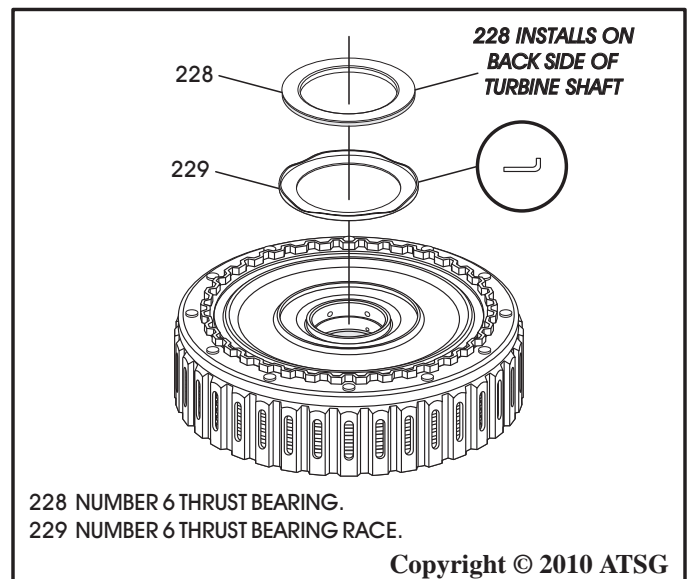

Figure 131
17. Turn the K1 clutch housing over and install the number 6 thrust bearing race in the direction shown in Figure 131 and retain with a small amount of Trans-Jel®.